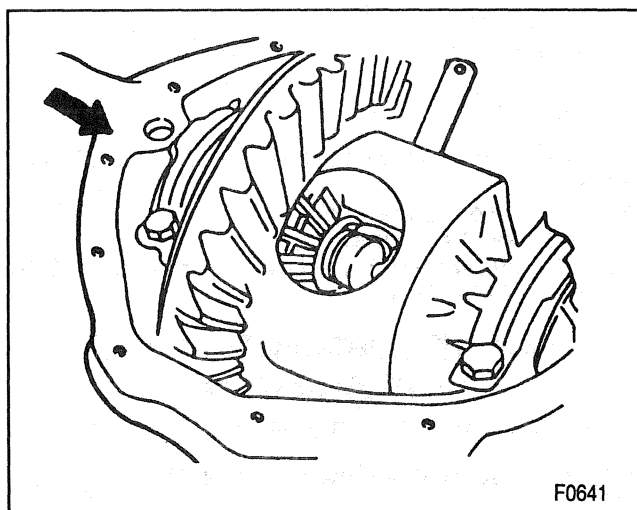

Figure 10—Pushing the Axle Shaft Inward
- Push the flange of the axle shaft towards the differential. Do not force or hammer the shaft to move the axle shaft (Figure 10).